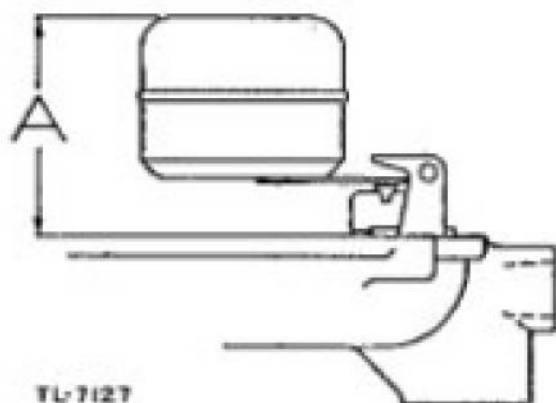

Figure 26. Carburetor float adjustment.
(21) Replace the fuel-valve seat and a new gasket, using the C161-85 service tool.
(22) Replace the fuel-valve needle.
(23) Replace the float assembly and float axle, using the handle end of a screw driver to drive the float axle into the slotted end of the float-hinge bracket.
(24) Check the position of the float assembly for correct fuel level. The "A" dimension shown in figure 26 should be 1 39/64 inches plus or minus 3/64 inch. Float should move freely on its axle.
(25) Place a new bowl to the body gasket in position on the throttle body. Be sure that the economizer channel in the throttle body coincides with the hole in the gasket.
(26) Place the bowl assembly in position on the throttle body; be careful not to damage the float.
(27) Install the assembly screws and lock washers. Be sure to tighten the screws evenly and securely, using a screw driver, or a 5/16-inch wrench.
(28) Install the idling adjusting screw (7) and spring. Adjust it to one full turn open as a preliminary adjustment.
(29) Install the throttle lever and tighten the clamp screw.
b. REPAIRS REQUIRING REMOVAL AND DISASSEMBLY OF THE PUMP (fig. 26.) Fuel pump trouble chart follows.